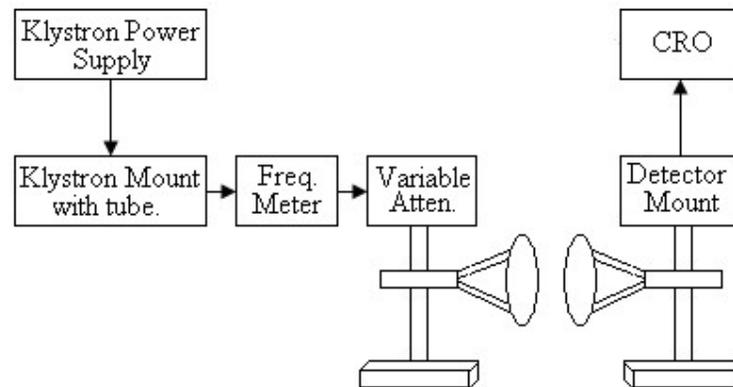

Fig.9 – **Block Diagram for Plotting of Radiation Pattern of Antenna**
1. Arrange the experimental set up in the sequence shown: Fig 9. For B procedure A receiving horn followed by a waveguide crystal detector (tunable) on the elevated mobile stand which can move axially as well as along an angular all round the horn radiator. Klystron is connected to the supply and the detector output is connected to the VSWR meter.